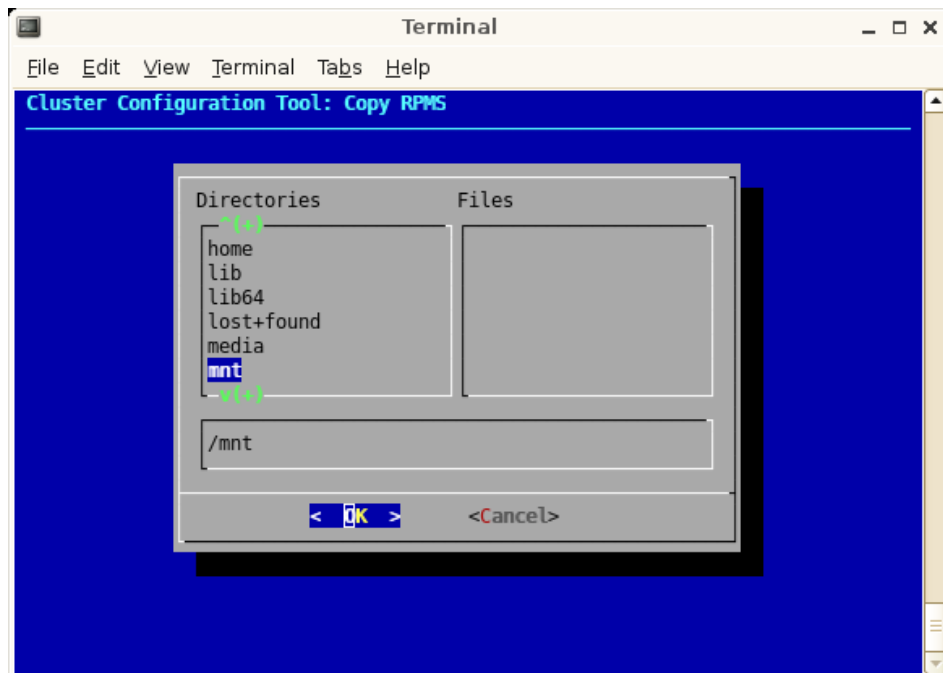

Figure 2-13 Copy RPMS Sreen Two
26. Enter the **/mnt** directory to browse its contents, as shown in Figure 2-13 on page 41. Make sure the RPMs have been successfully copied. Click **OK** to continue.